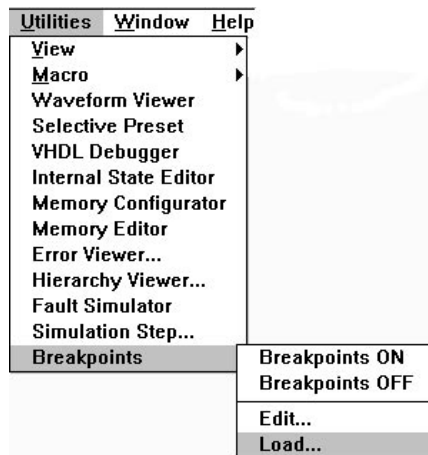
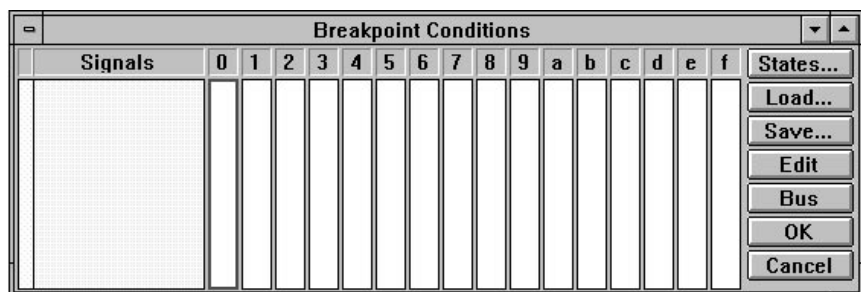

Figure 6-1. Breakpoint Options Menu
Figure 6-2. Breakpoint Conditions Window
To create breakpoints, select the **Breakpoints** option from the **Utilities** menu. ACTIVE-CAD responds by displaying the **Breakpoint Options** menu (Figure 6-1). These options perform the following functions:
Clicking on the **Edit** option in the **Breakpoint Options** menu (Figure 6-1) invokes the **Breakpoint Conditions** window (Figure 6-2), whose **Signals** field shows all signals currently displayed in the simulator.
8. Click on the **OK** button in the **Breakpoint Conditions** window. This sets the **Breakpoint ON** condition in the **Utilities/Breakpoint Menu** (Figure 6-1).